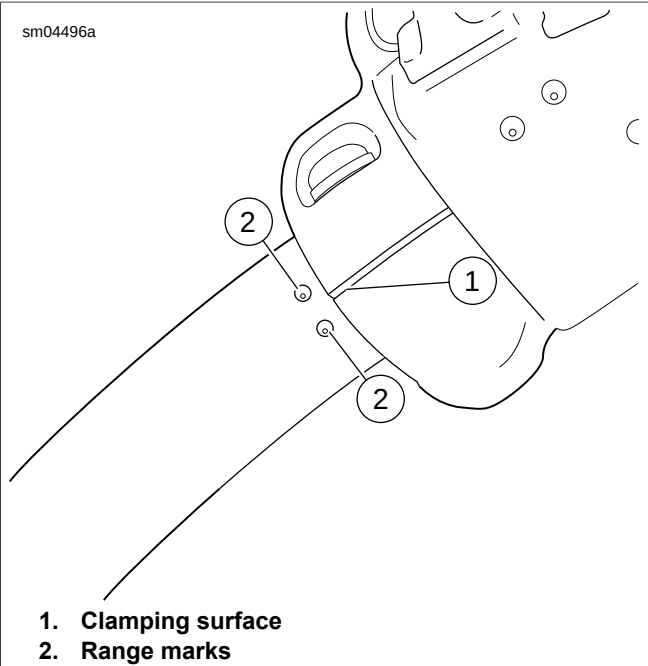

Figure 7-112. Right Hand Control Assembly to Handlebar Alignment
See Figure 7-112. When installing right handlebar switch assembly for motorcycles with internally wired handlebars, make sure the clamping surface (1) stays within the range marks (2) or damage to the wires will occur.